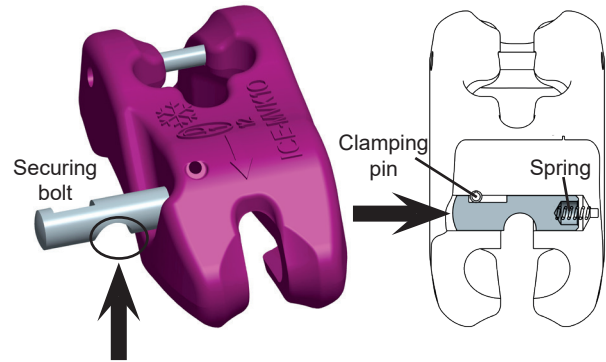

Fig. 28:
6. Push a new securing bolt into the bore (Fig. 28).
- Align the securing bolt in such a way that the rounded recess is pointing downwards (Fig. 28). Only then can the clamping pin to secure the securing bolt be inserted into the appropriate groove using a hammer.